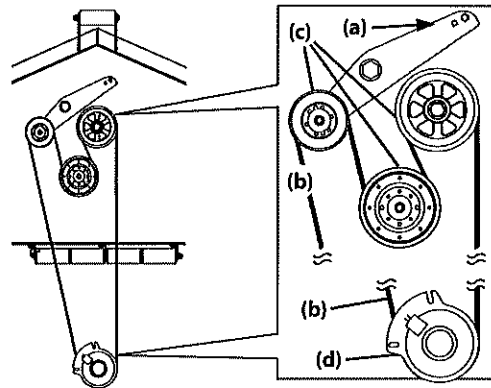

Figure 29
3. Using a 1/2" (12.7 mm) drive in the idler pulley bracket (a), turn the wrench towards the front of the mower and slide the PTO belt (b) off the deck pulleys (c) and the PTO clutch (d). See Figure 29.